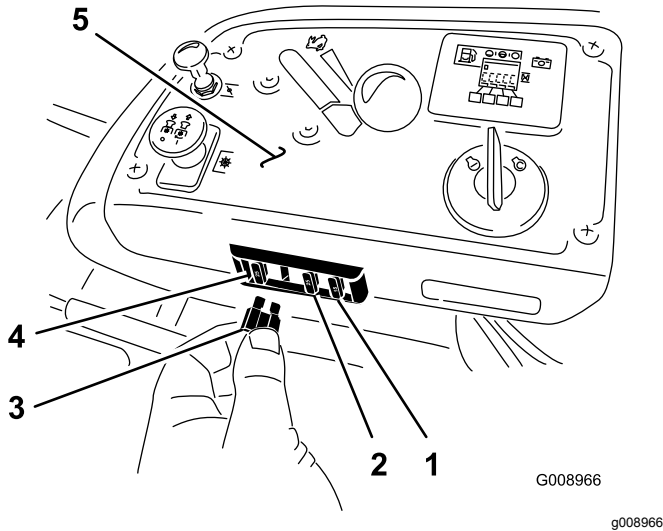

Figure 58
The fuses are located on the right console next to the seat (Figure 58).
2. Install a new fuse (Figure 58).